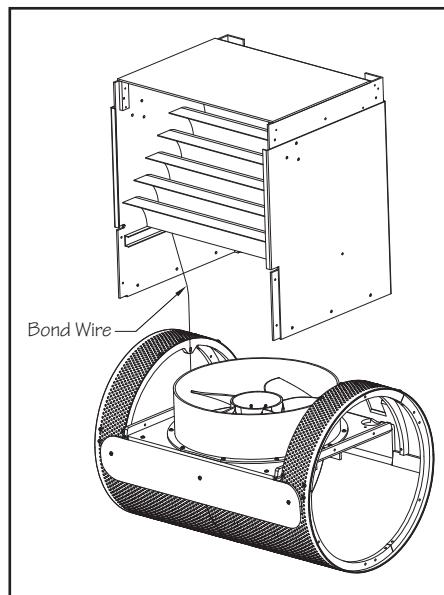

Fig. 6.4A
- 6.5 Carefully remove the protective film encasing the upper housing. Place the upper housing into the opening of the cylindrical base (Fig 6.4A). The hydraulic hoses connected to the base should be aligned with the back of the upper housing. Make sure that the stainless steel bonding wire attached to the motor mount is positioned inside of the upper housing.